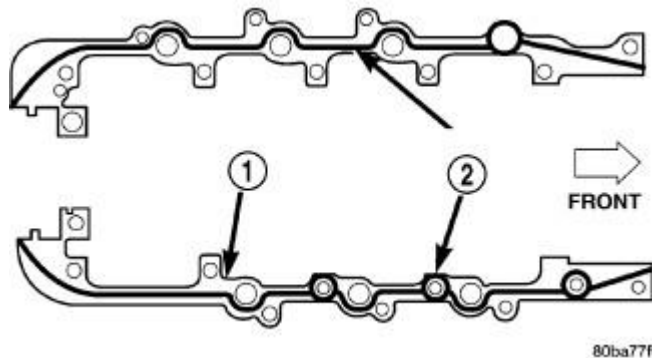

Fig. 180: Cylinder Block-to-Bedplate Sealant Bead Location
4. Apply a 2.5 mm (0.100 inch) bead of Mopar® Silicone Rubber RTV (2) to the cylinder block-to-bedplate mating surface (1) as shown in **Fig. 180**.